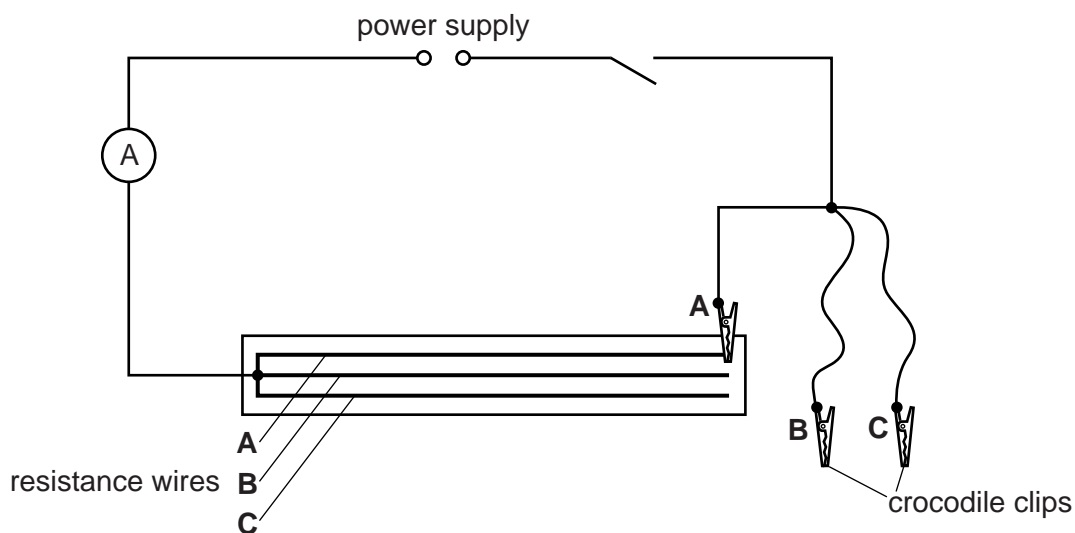

Fig. 1.1
- (vi) Sufficient connecting leads to set up the circuit shown in Fig. 1.1 and two additional leads.
1. The wires are to be fixed (taped) to the rule or wood as shown in Fig. 1.1 so that they do not touch except where connected at one end. Candidates must be able to connect the crocodile clips to the free ends of the wires.
2. The circuit is to be set up for candidates as shown in Fig. 1.1. Crocodile clip A is to be connected to the free end of wire A. The other crocodile clips are not to be connected to the resistance wires.
Reconnect the circuit as shown in Fig. 1.1. Check that it is working. Ensure that the circuit is switched off.